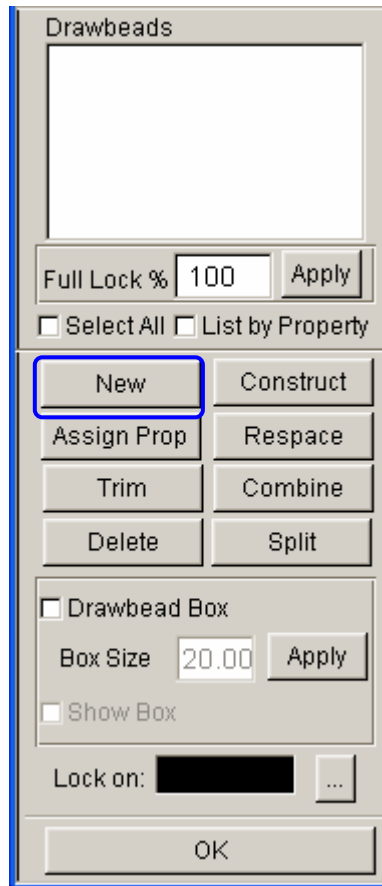

Figure 7.33 Create new drawbead
20. Click  button illustrated in Figure 7.33 to lock drawbead to BINDER. Select **BINDER** from the SELECT PART dialog box.